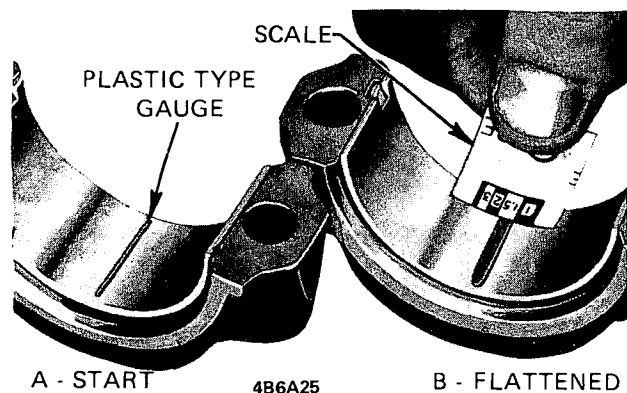

Figure 6A-14 Checking Bearings with Plastic-Type Gauge
2. Place a piece of plastic-type gauge lengthwise along the bottom center of the lower bearing shell (Figure 6A-14, View A). Install cap with shell and tighten bolt nuts to 35 lb. ft. torque.
5. Using the scale printed on the plastic-type gauge envelope, measure the flattened plastic-type gauge at its widest point. The number within the graduation which most closely corresponds to the width of plastic-type gauge indicates the bearing clearance in thousandths of an inch. See Figure 6A-14, View B.